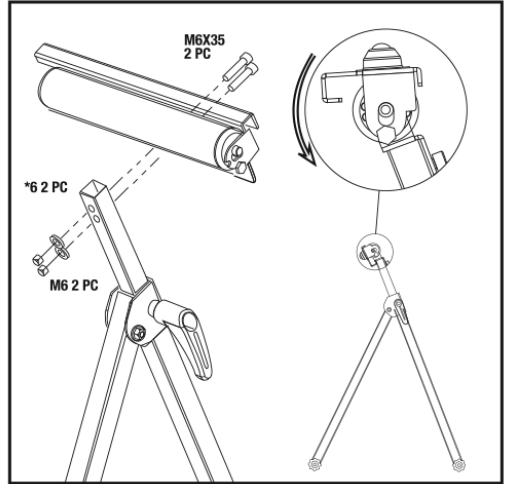

Fig. 3
- Attach roller/bearing head (Fig. 3).